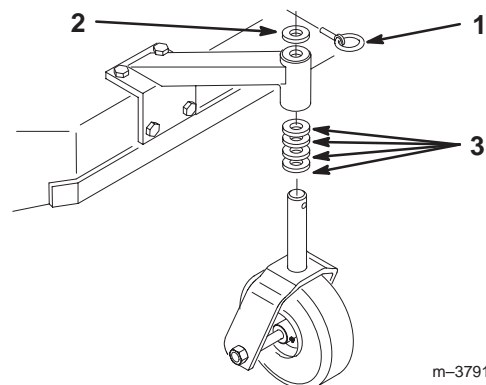

Figure 23
1. Using the height-of-cut chart, adjust the caster spacers to match with the axle hole selected (Fig. 23).
2. Remove clevis pin, slide caster from support and change spacers (Fig. 23).
3. Install caster in support and insert clevis pin (Fig. 23).